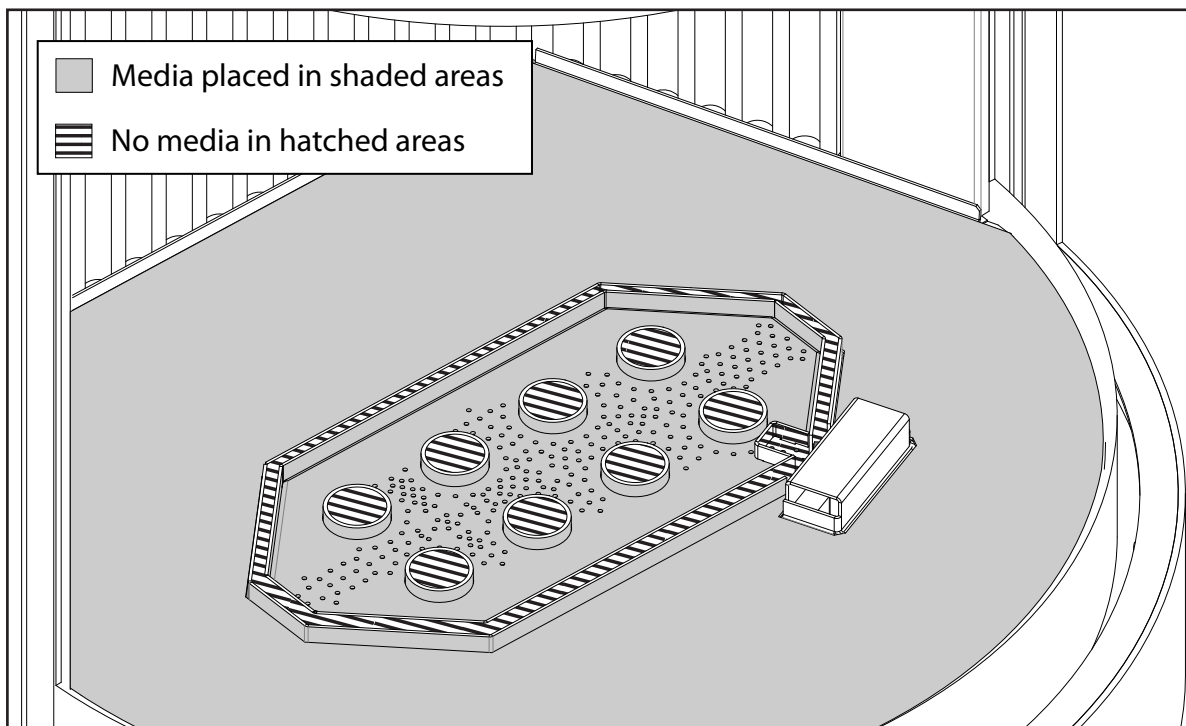

Figure 107: Media Installation Area
***Note:** Ensure that the areas highlighted in Figure 107 are not covered by media. These areas must be clear to allow the proper flow of air. Failure to do so will cause the fireplace to not burn properly.